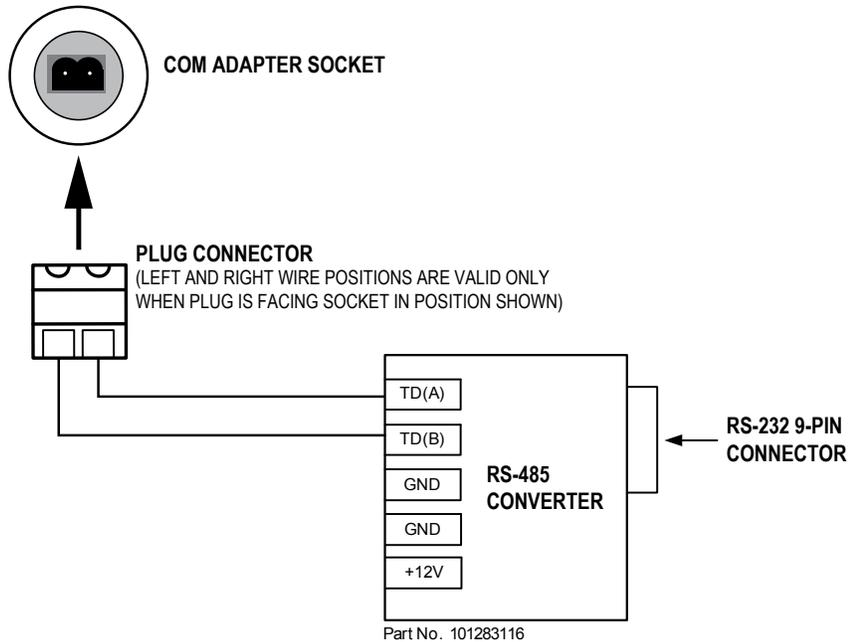

Figure A.5—Wiring of plug connector to 9-pin RS-232 to RS-485 converter cable, Part No. 9A-101283116
A plug connector that mates with the RS-485 adapter socket is shipped with the device (uninstalled). This plug connector should be wired to an RS-485 converter cable as shown in Figure A.5, page A-4, and stored with the cable when the COM adapter is not in use.
2. Wire the plug connector to an RS-485 converter cable, if it is not already attached (Figure A.5).
3. Connect the plug connector to an RS-485 converter cable (*Figure A.5, page A-4*) if applicable.
4. Connect the plug connector to an RS-485 converter cable (*Figure A.5, page A-4*), if applicable (black wire to negative terminal).